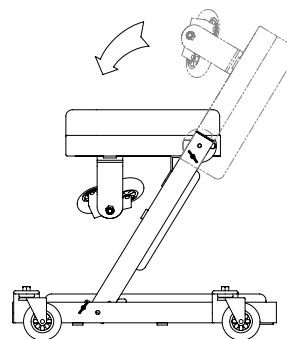

Figure 8 - High-seat configuration
2. Disengage Lock Pin for Middle Frame and rotate further forward. Engage locking pin. Disengage Lock Pin for Head Frame section and rotate backwards as shown in Fig. 8. Adjust hinged caster brackets as required. This is the high seat configuration.